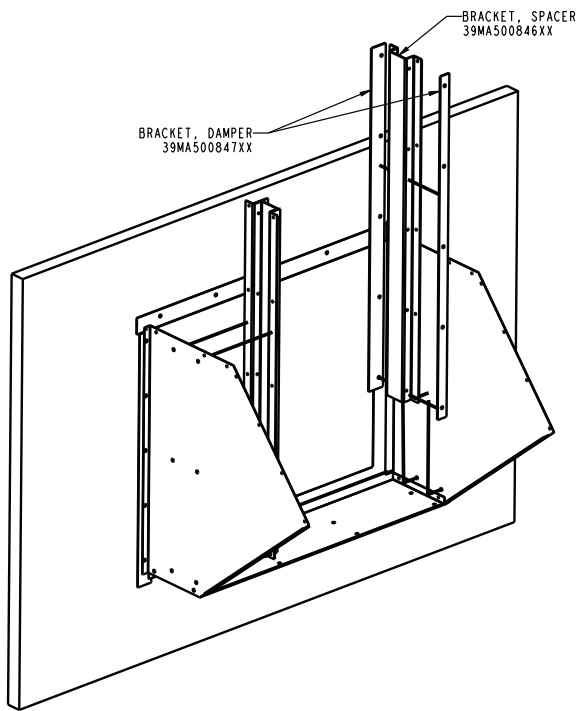

Fig. 83 — Installing the Bracket, Space, and Damper (Sizes 61, 85, 96, and 110)
12. For size 61 units (AF361) and sizes 85, 96 and 110 (AF40 and FC40) install bracket spacer and damper brackets using the 1/4 in.-14 x 5/8 in. long sheet metal screws (without neoprene washer.) See Fig. 83.